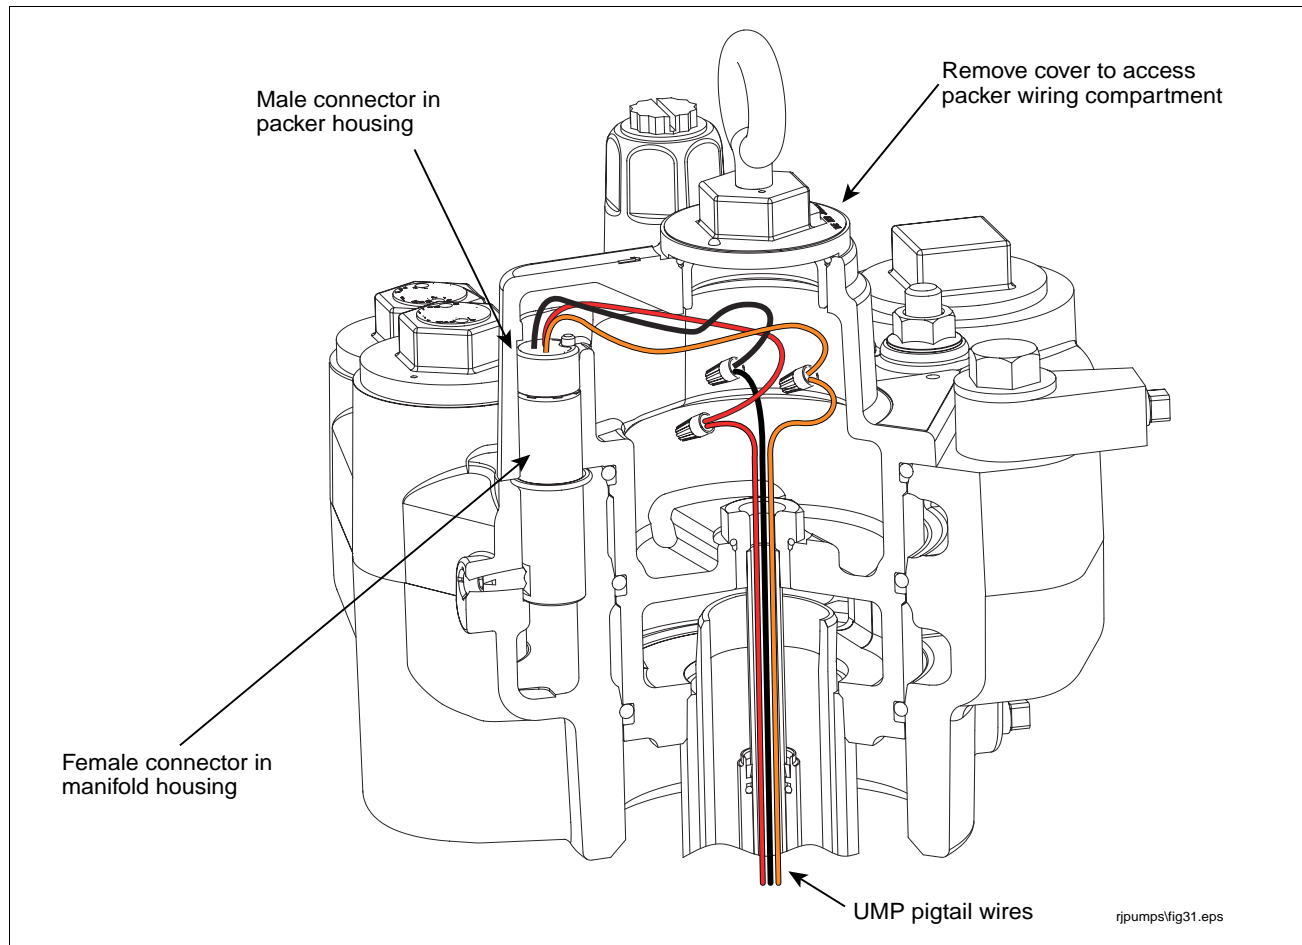

Figure 14. Connecting UMP to packer wiring
13. Connect like colored wires from the UMP to like colored wires from the male connector with wire nuts. When finished connecting the wires, neatly coil wires inside the packer's wiring compartment (see Figure 14).